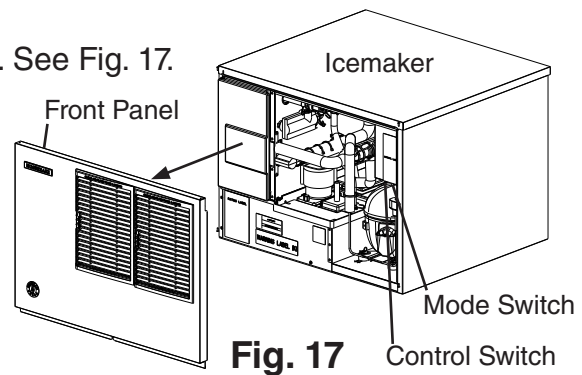

Fig. 17
- 2) If not already removed, remove the front panel. See Fig. 17.